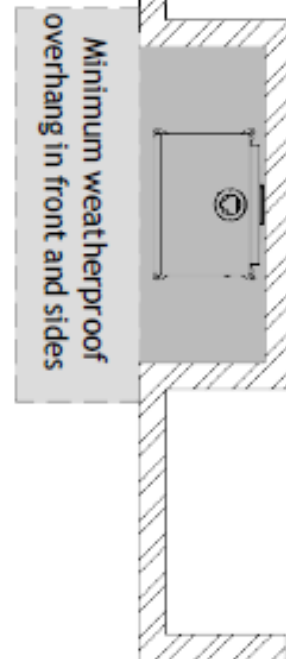

Figure 3.7, Outdoor Covered Gas Stove Install
- The continuous insulated building envelope and weatherproof membrane are not to be interrupted by gas stove installation. See Figure 3.7.